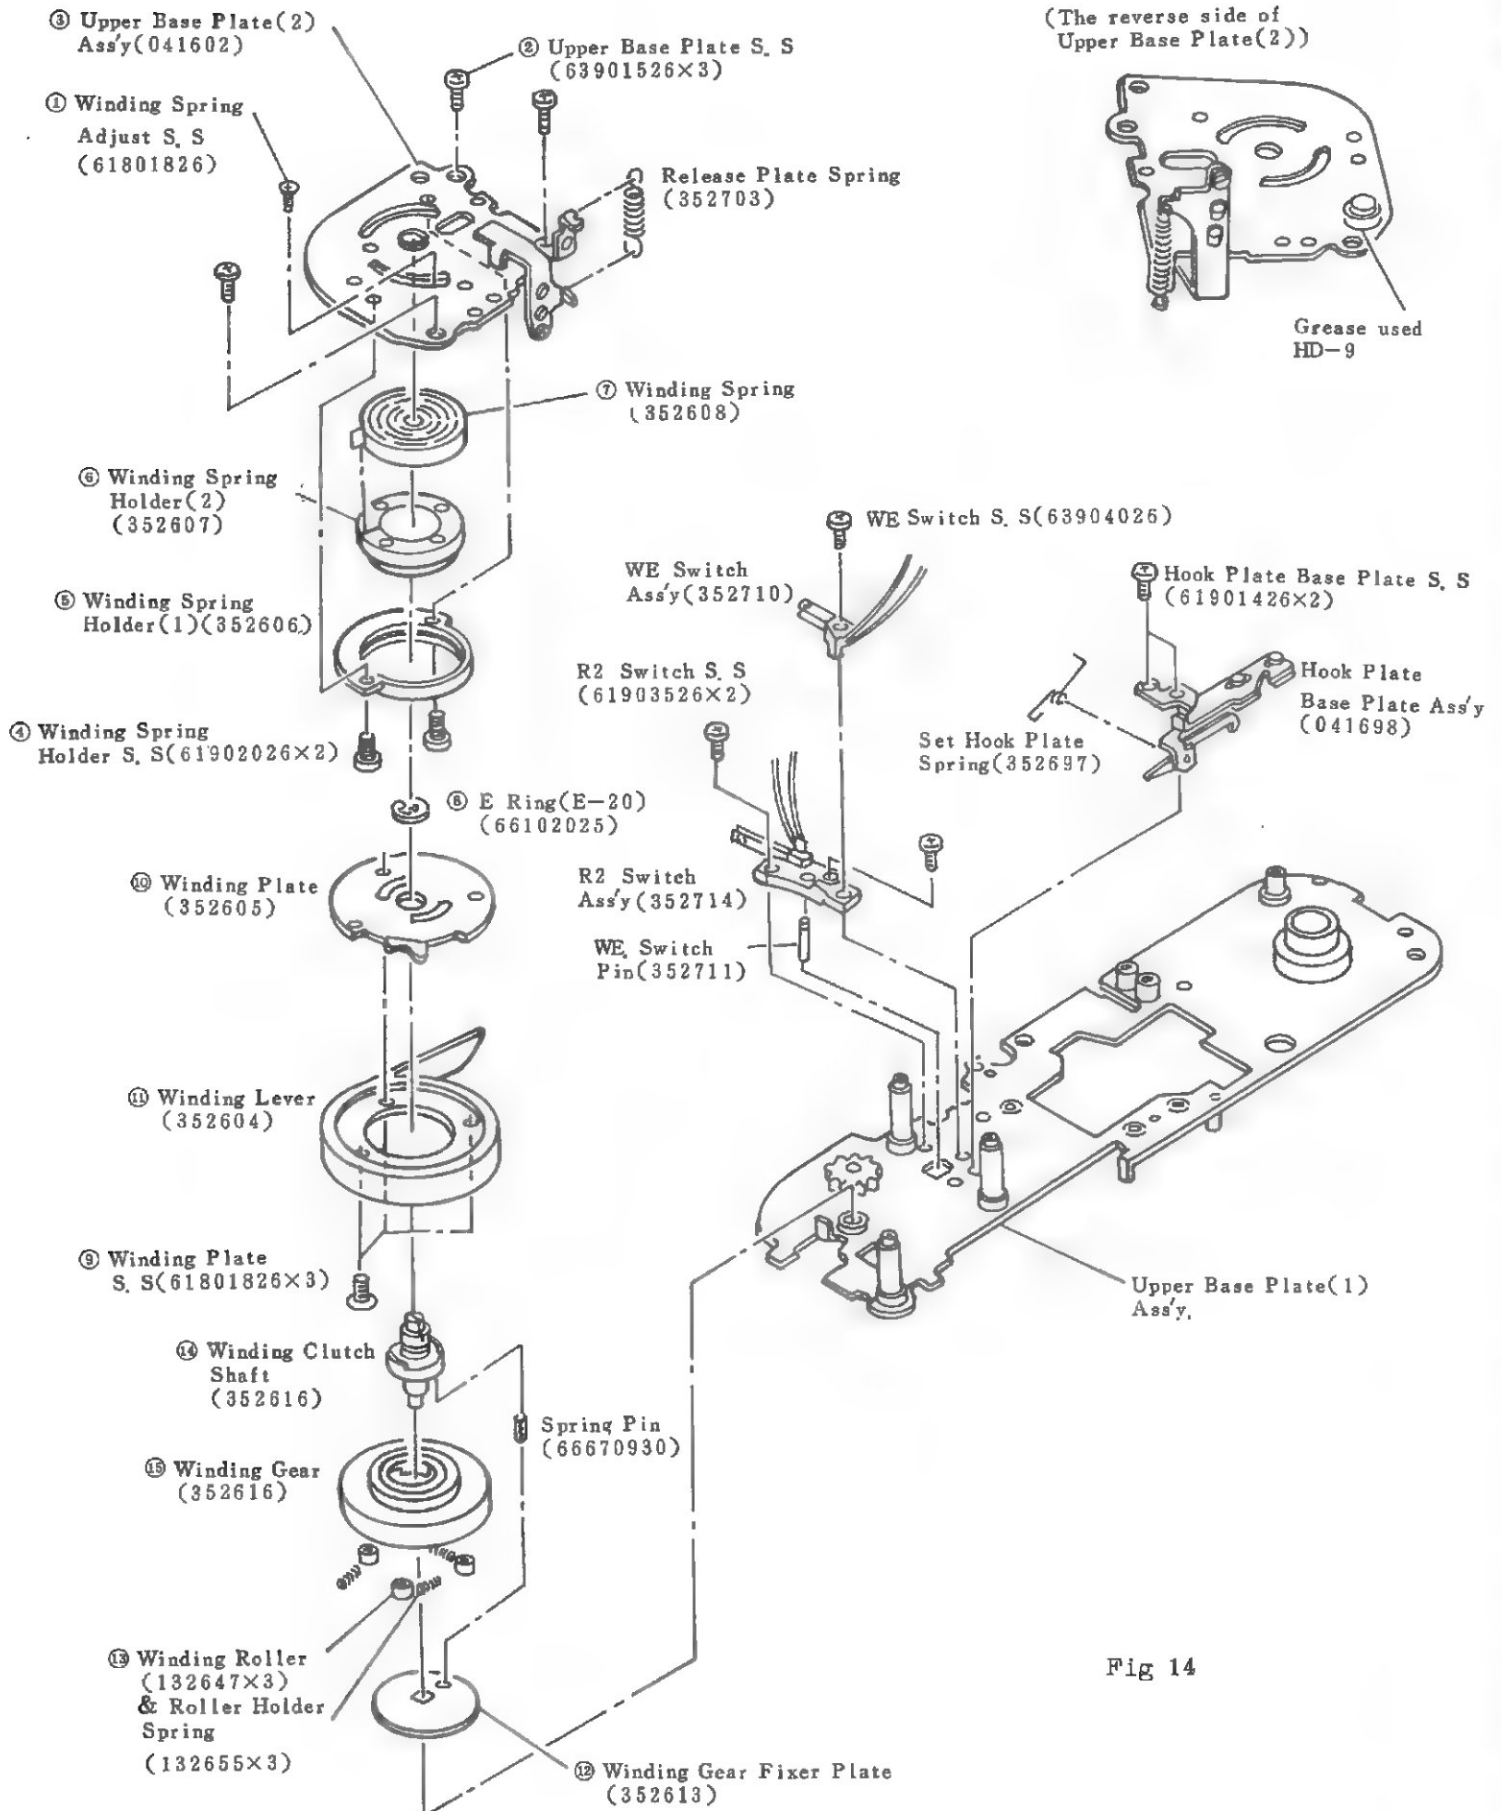

Fig 14
(7) Disassembling of the Winding Base Plate Ass'y;
Remove the respective parts ①~⑮ shown in (Fig 14) in numerical order.